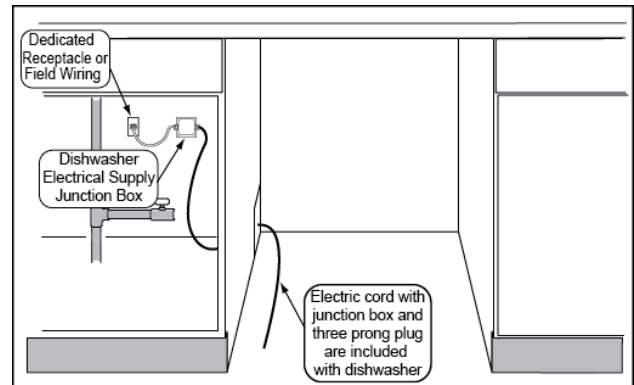

Figure 6
The dishwasher electrical supply junction box (P) and dedicated receptacle must be mounted in an accessible cabinet adjacent to the dishwasher (do not mount the junction box or receptacle behind the dishwasher). You will need a 4^{3/4"} x 2^{3/8"} (120 x 60 mm) opening through the cabinet in order to pass the junction box through (see **Figure 6**). If the opening is made through wood, sand it smooth. If the opening is made through metal, use the included protective grommet (I) or other approved method to protect wiring from damage. Use the four screws included (or appropriate fastener) in the parts bag to securely mount the junction box so that it can be easily accessed (see **Figure 6**). The electrical supply can be connected in two ways: